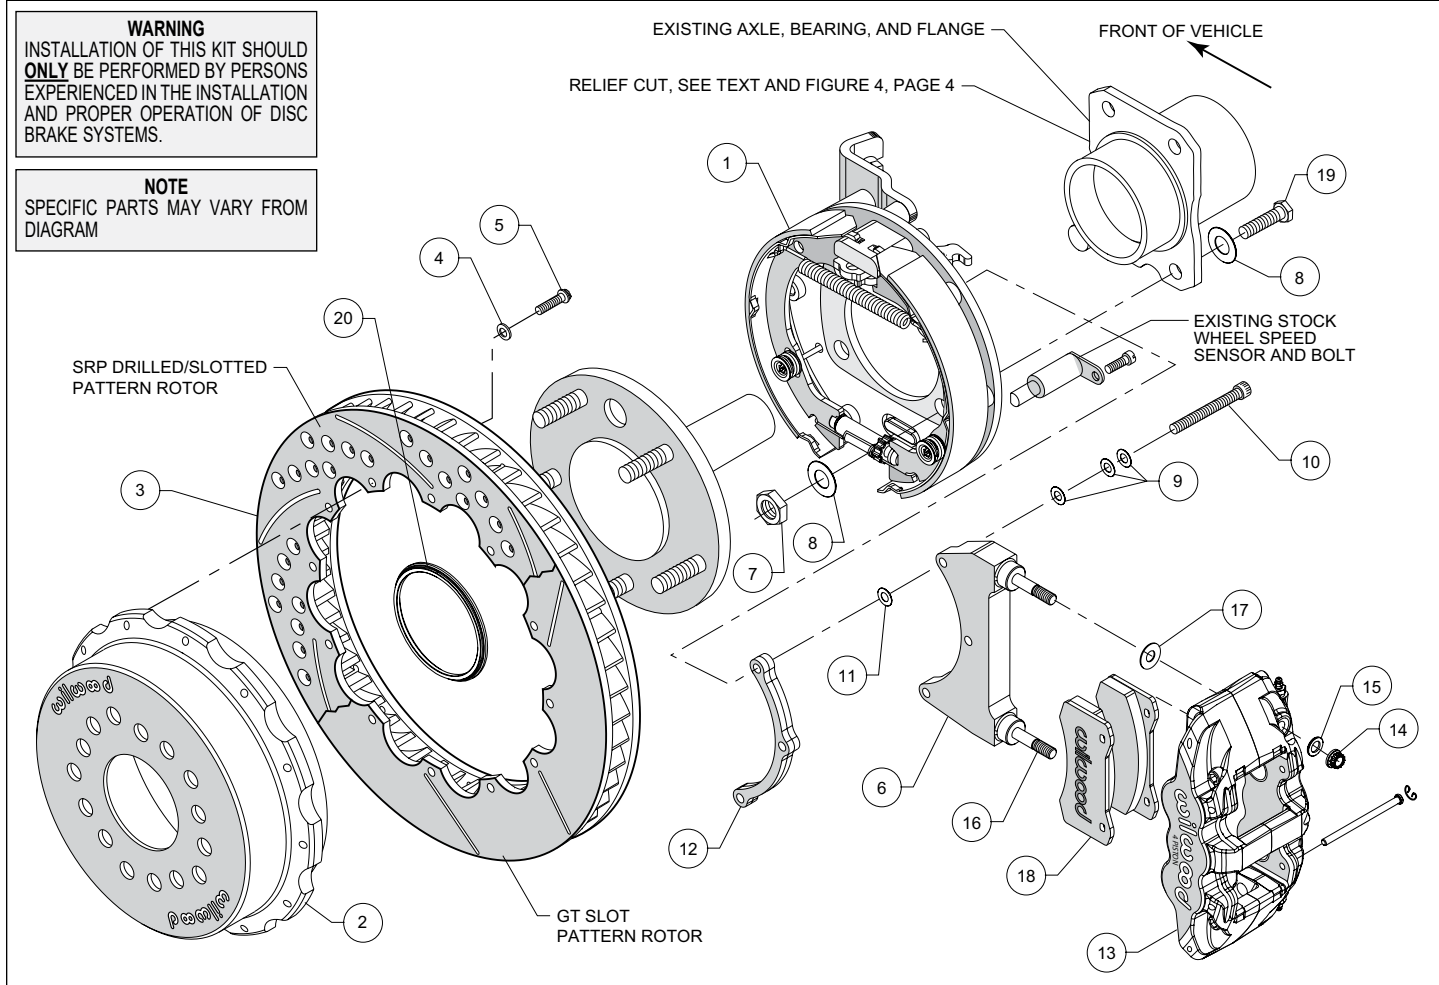
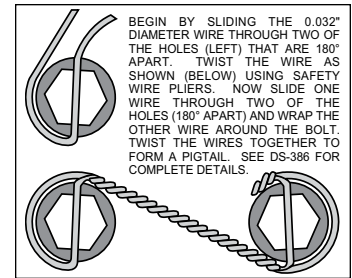

Figure 1. Typical Installation Configuration
Figure 5. Safety Wire Diagram
- Make sure this is the correct kit to fit the axle housing flange, not necessarily the rear end make. Many times after market manufacturers put a different make of axle housing flange on the stock rear end housing (see Figure 5). Example; Big Ford rear ends with Olds-Pontiac flanges, therefore, an Olds-Pontiac rear disc brake kit would be the correct kit to order. Also, shock clearance may be a problem. They may have to be modified and/or relocated to clear the Wilwood kit after final assembly.
- With the larger I.D. side of the rotor (3) facing away from the hat (2), bolt rotor (3) to hat (2) through the backside of the rotor using washers (4) and bolts (5). Apply red *Loctite*® 271 to the bolt threads and torque to 155 **in-lb** using a criss-cross pattern. For an added measure of security, the bolts may be safety wired using standard 0.032 inch diameter stainless steel safety wire as shown in Figure 5. Please refer to Wilwood's data sheet DS-386 (available at [www.wilwood.com/Pdf/DataSheets/ds386.pdf](http://www.wilwood.com/Pdf/DataSheets/ds386.pdf)) for complete safety wire installation instructions.
- Slide the rotor registration adapter (20) onto the axle register on the axle flange with the smaller O.D. facing toward the rotor/hat (2). Align the correct hole pattern in the hat with the stud pattern on the axle flange. **NOTE:** *Some OEM and aftermarket axles come with stud sizes larger than 0.50" diameter.* Verify stud size and have a qualified machine shop drill the hats to the correct size, if necessary. Slide the hat/rotor assembly (2 and 3) over the wheel studs covering the bracket kit assembly (1) and against the axle flange face. Check to be sure the hat seats squarely against the hub. Install three lug nuts (finger tighten) to keep the rotor/hat assembly in place while continuing with the installation.
- NOTE:** *Please reference the caution statement at the beginning of the assembly instructions.* The caliper mounting bracket assembly (6) should be installed first with clean, dry threads on the mounting bolts (10). Install the bracket from the rear side of the bracket kit assembly (1) by sliding bolt (10) through three flat washers (9), bracket (6), shim washer (11) and finally through the spacer (12), see Figure 1. **NOTE:** *End of bolt should not exceed inside face of insert. The bracket must tighten squarely against the back side of the bracket kit assembly (1).* Inspect for interference from casting irregularities, machining ridges, burrs, etc. Use one thin shim (11) between the bracket (6) and spacer (12) during initial trial fitting.
- Lubricate caliper mounting studs and nuts with lightweight oil. Install one washer (17) over each pre-installed stud (16) on the radial mount bracket (6). Slide the caliper (13) in place over the studs and rotor, then install the washer (15) and lock nut (14) to hold the caliper in place. The caliper bleed screws should be pointing up. Snug the lock nuts (14) and check that the rotor (3) is centered in the caliper (13). Add or subtract .015" shims (11) as necessary between the caliper mounting bracket (6) and the spacer (12) to center the caliper (13).
- Remove the two pad retaining pins from the caliper (13) by carefully popping out the pin retaining clips and sliding out the pins. Insert the brake pads (18) into the caliper from the bottom, Figure 1. With the friction material facing the rotor, secure the brake pads in place with the pad retaining pins and clips. Reinstall the caliper onto the caliper mounting bracket and temporarily tighten the lock nuts. Check that the top of the brake pad is flush with the outside diameter of the rotor. If not, adjust by adding or subtracting shims (17) between the caliper and the bracket.
- Adjust the parking brake shoes outward (using a drum shoe adjustment tool available at your local auto parts store) while spinning the hat (2) until a slight drag is felt against the hat/drum. Remove the lug nuts that were holding the hat/rotor in place. Install the wheel and lug nuts. Check to see that the wheel rotates freely without interference.
- Once all clearances have been checked, remove the wheel, caliper, hat/rotor from the bracket kit assembly (1). Secure the caliper mounting bracket (6) to the bracket kit assembly (1) using red *Loctite*® 271. Torque bolts (10) to 180 **in-lb**. Reinstall the hat/rotor assembly and again use lug nuts to hold it in place. Reinstall the caliper, torque the caliper nuts (14) to 47 ft-lb.
- NOTE:** *Clevis and cable kits which attach to the parking brake assembly are not included in the Wilwood parking brake kit.* Wilwood offers a parking brake cable kit, P/N 330-11221 for 2005-2010 and P/N 330-12335 for 2011-present which can be ordered separately from your local Wilwood dealer or by calling Wilwood customer service at (805) 388-1188.